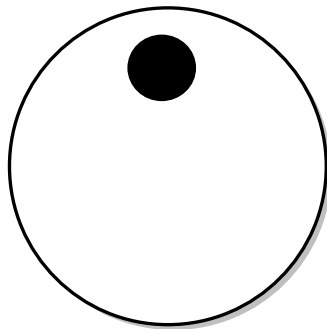

Fig. 4
2. A sterile pipette may be used to transfer a drop of fluid to the 1st quadrant of each plate (See Fig. 4). Avoid inoculating the material all the way to the edges of the plate.